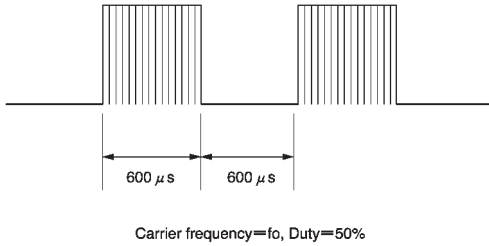
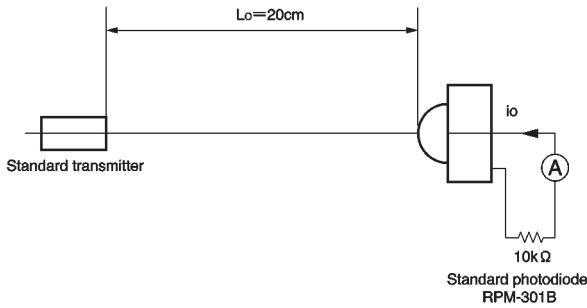
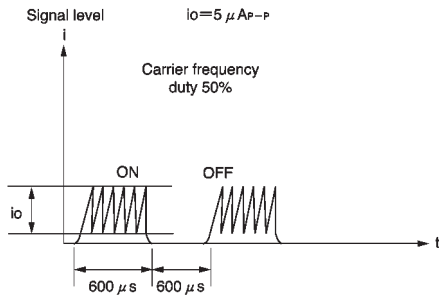

Fig.1 Transmit signal
Fig.2 Measurement of standard transmitter proofreading
Fig.3 Standard photodiode current
*1 The burst wave form mentioned in fig.1 is to be transmitted from standard transmitter (fig.2).
When standard transmitter output the signal at Fig.1 standard photodiode output become $i_o = 5 \mu A_{P-P}$ under the measurement condition Fig2, Fig.3.
(1) All characteristics of the receiver in this specification are specified by supplying burst wave form with ROHM standard transmitter (Fig.2).